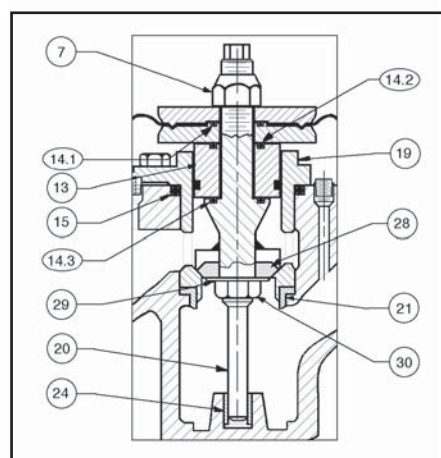

Figure 6: Body Sizes
- d. Remove upper diaphragm pressure plate (8).
- h. Remove lower diaphragm pusher plate (10).
- j. Remove plug (20) from vise, rotate end-for-end, and resecure in vise using same metal bars of a. above.
- k. Loosen seat nut (30) CCW (viewed from above) approximately two (2) revolutions.
- l. Remove assembly (20, 27, 28, 29, 30) from vise. Complete removal of seat disc nut (30), seat disc washer (29), and seat disc (28).
2. Body Sizes 2-1/2" – 4". (See Figure 6):
- a. Place seat disc nut (30) into a vise with the plug (20) oriented vertically. Do NOT over-tighten nut (30) in vise.
- b. Place closed-end hex wrench onto diaphragm locknut (7). Place socket wrench on 3/4" hex upper end of plug (20). Loosen diaphragm locknut (7) while holding plug (20) from rotating by socket wrench. Remove diaphragm locknut (7) after fully loosened and socket wrench is removed.
- c. Remove upper diaphragm pressure plate (8).